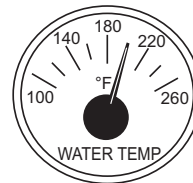

Figure 13. Coolant Temperature Gauge
10. The **coolant temperature gauge** (Figure 13) will indicate the coolant temperature. Under normal operating conditions the coolant temperature should be between 167°–194°F (75°–90°C).